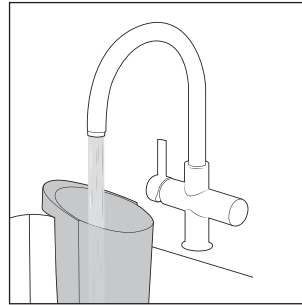

Fig. 23
- ◆ Rinse the waste water tank ② in hot running water (see fig. 23).